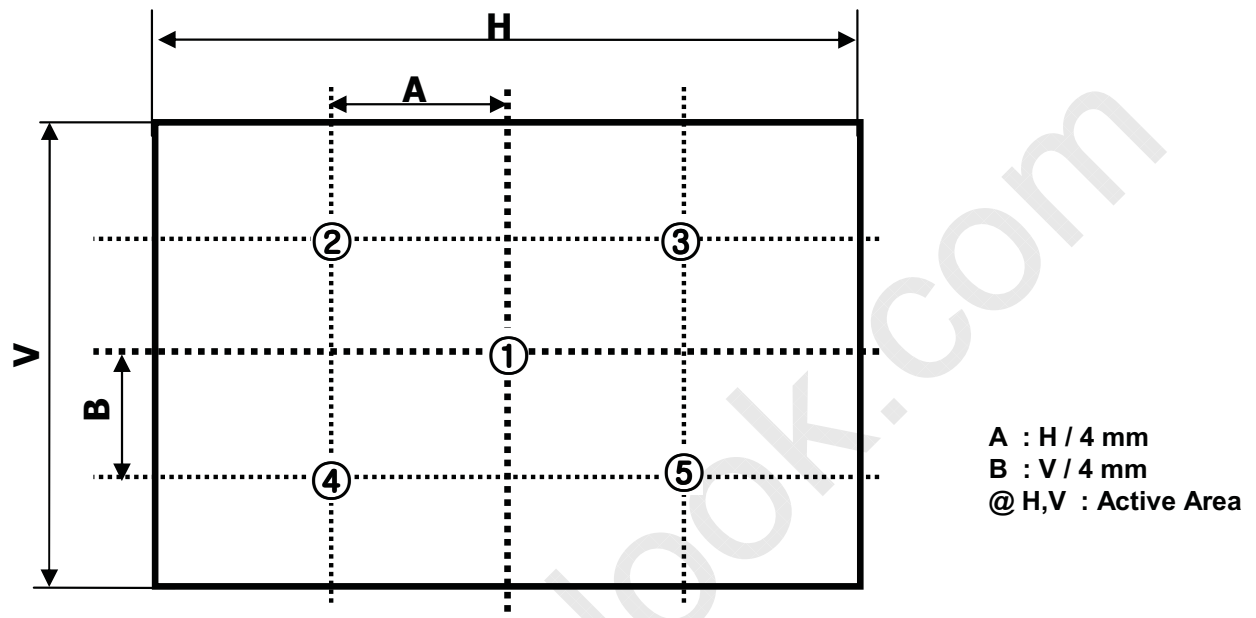

FIG. 10 5 Points for Luminance Measure
2. Surface luminance is determined after the unit has been 'ON' and 1Hour after lighting the backlight in a dark environment at $25 \pm 2^\circ\text{C}$. Surface luminance is the luminance value at center 1-point across the LCD surface 50cm from the surface with all pixels displaying white. For more information see the FIG. 10.
For more information, see the FIG. 10.